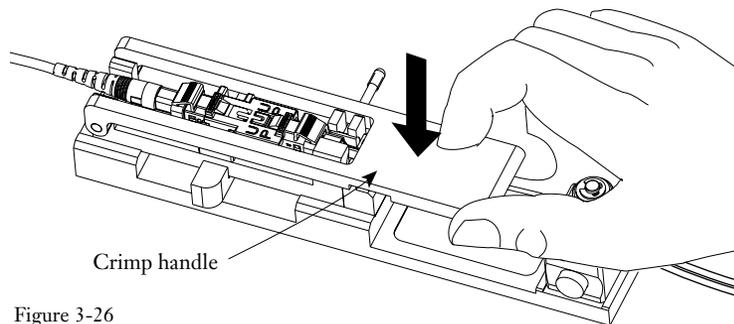

Figure 3-26
**3.7-6** Carefully flip the crimp handle 180° until it contacts the crimp tubes. Push down firmly to crimp. The tool cannot over-crimp the connector (Figure 3-26).